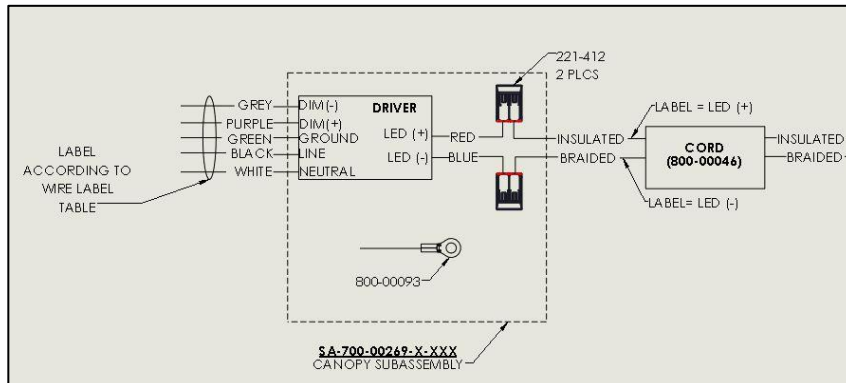

FIG. 15 – WIRE DIAGRAM FOR ALL MODELS
10. See WIRE DIAGRAM as shown in FIG. 15 and WIRE LABEL TABLE below for wire connections. Make all wire connections in accordance with the national electrical code and all applicable local and state codes.